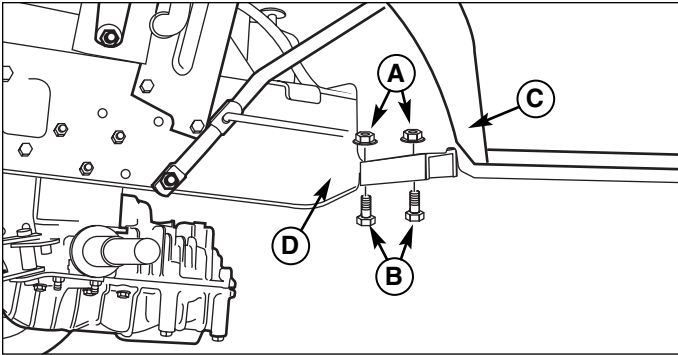

Figure 2. Capscrew Removal
2. Remove 5/16-18 nuts (A, Figure 2) and 5/16-18 x 3/4 capscrews (B) which hold the right rear seat deck (C) to the frame (D). Discard capscrews and nuts.